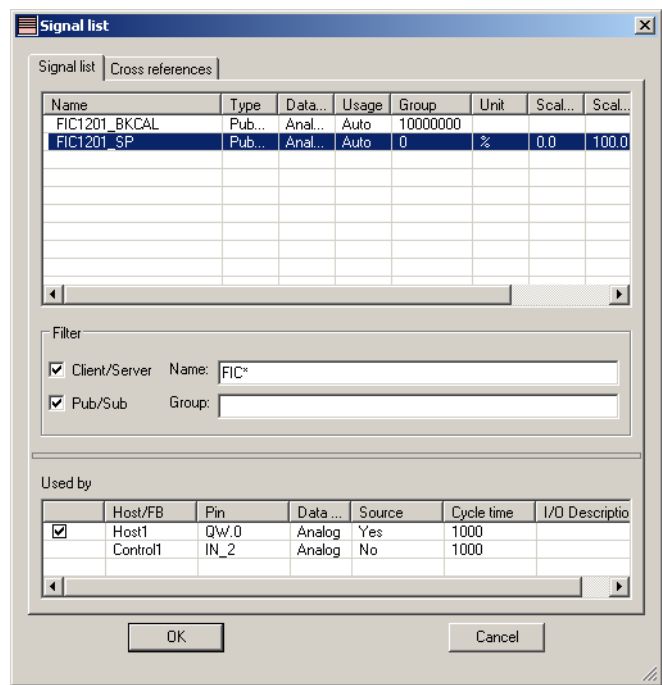

Figure 178. Example for signal usage configuration
- c. Check the Host by which the signal shall be used. If the communication direction is IEC61131 -> FF, check, whether the source parameter is set to “yes”. Refer to Figure 178